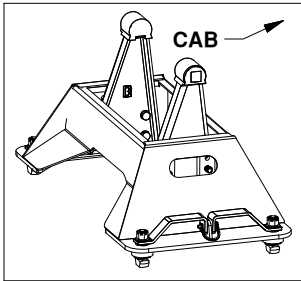
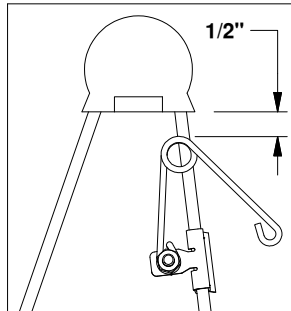

Figure B3: View of base.
Figure B4: Driver side pivot arm.
2. Locate the flange which will be closest to the truck cab on the driver side pivot arm, see Figure B3. The clip should be placed so that when the springs coil is in the line with the edge of the arm there will be 1/2" of clearance between the bottom of the rubber bumper and the top of the spring, see Figure B4. Drive the clip securely onto the flange with a hammer.